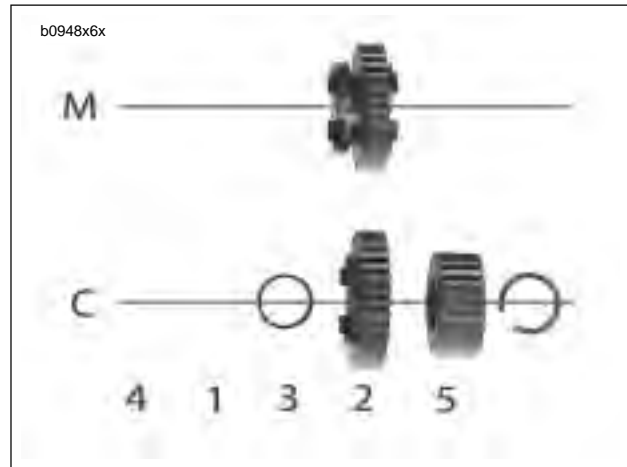

Figure 6-31.
1. See Figure 6-31. As each component is removed, place it on a clean surface in the exact order of removal.